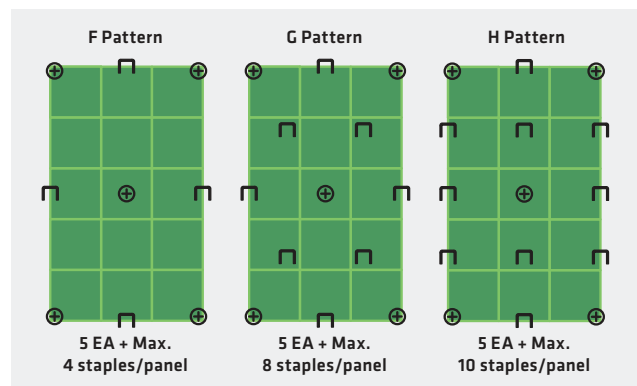

FIGURE 2: Anchor Patterns for use with a combination of earth anchors and staples
2. Anchor type selection should be based on the soil type and pull-out strength required (Table 2). In soft, highly erodible soils percussion earth anchors may be necessary. Earth anchors can be installed in conjunction with staples (Figure 2).